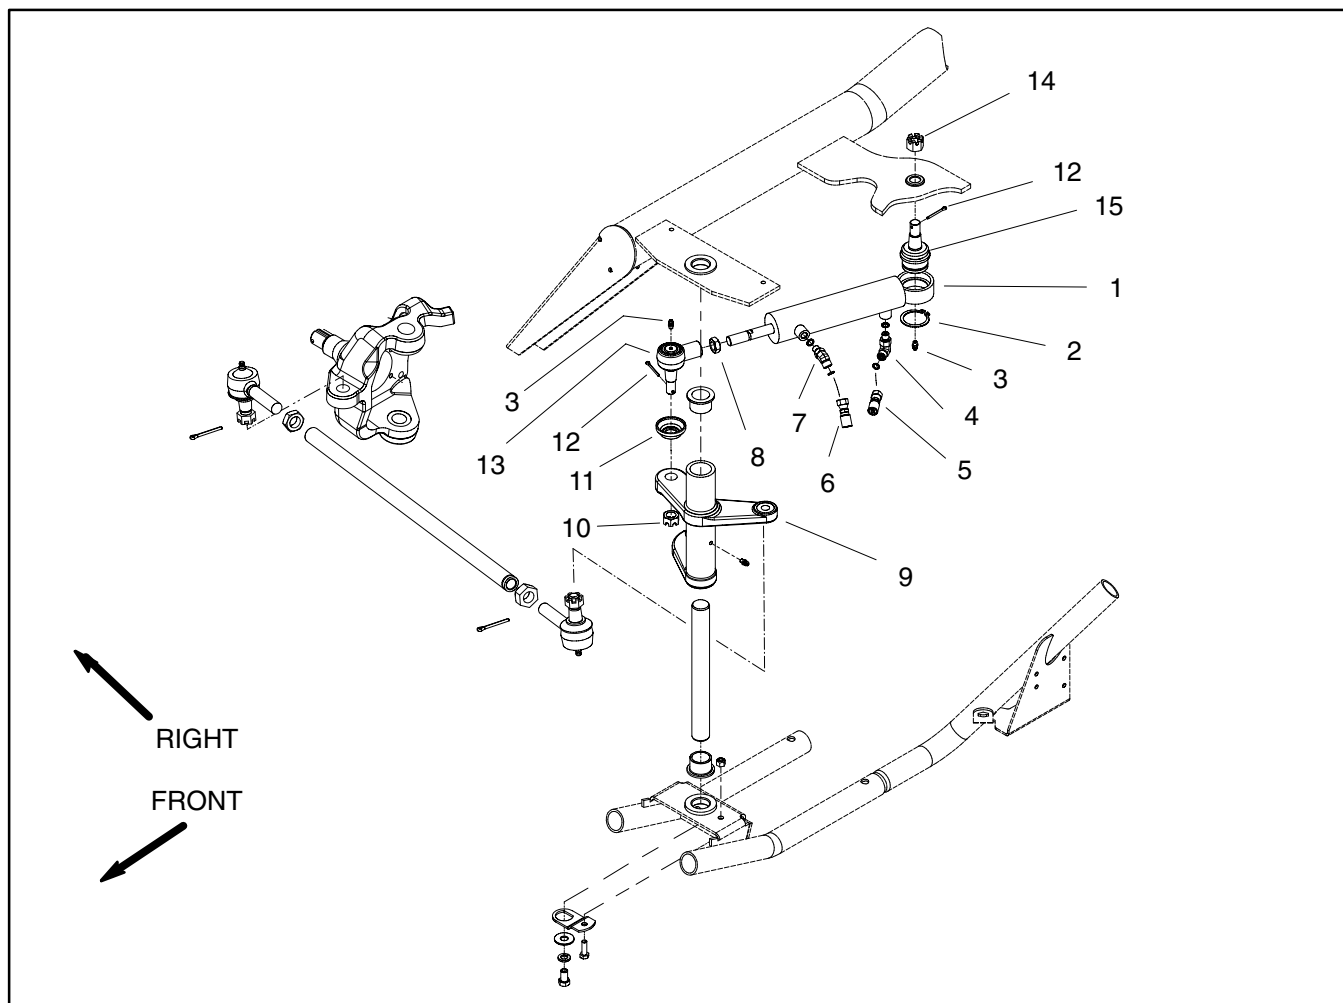

Figure 31
Removal (Fig. 31)
4. Remove steering cylinder from vehicle using Figures 31 and 32 as guides.
Installation (Fig. 31)
2. Install steering cylinder to vehicle using Figures 31 and 32 as guides.